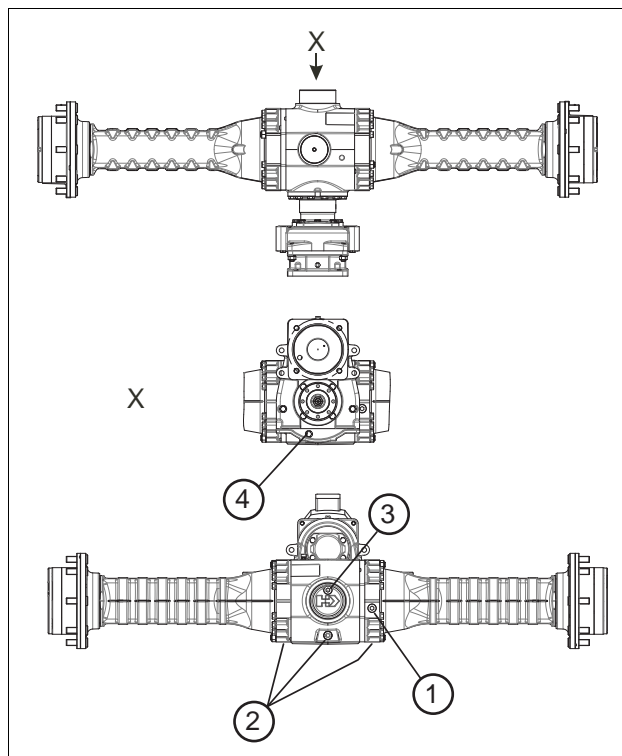
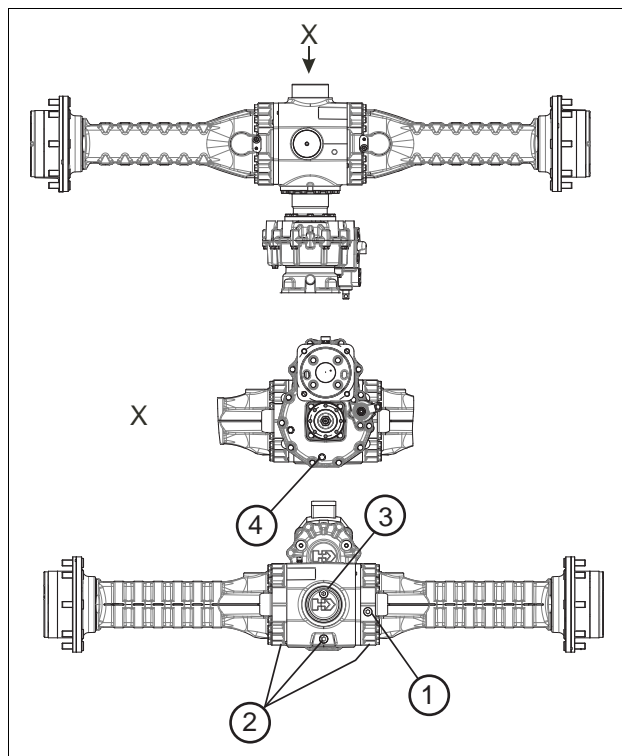

Fig. 61 Changing the axle oil of the rear axle
Fig. 62 TL120 S - Changing the axle oil of the rear axle
- If you have the TL120 S, please use Fig. 62 instead of Fig. 61 for the following operations. Fig. 62 shows the rear axle installed in the TL120S.